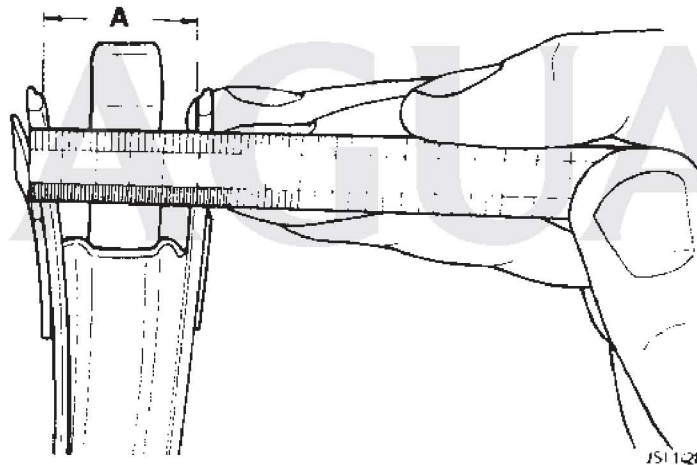

FIG 2
5. Refer to Fig 2, which shows the lower guide channel being measured at the position it must be opened out to prevent the door glass sticking. The nominal dimension at this position should be 19.8 to 20.8 mm; subsequently the channel should be opened up to 26.0 to 28.0 mm.